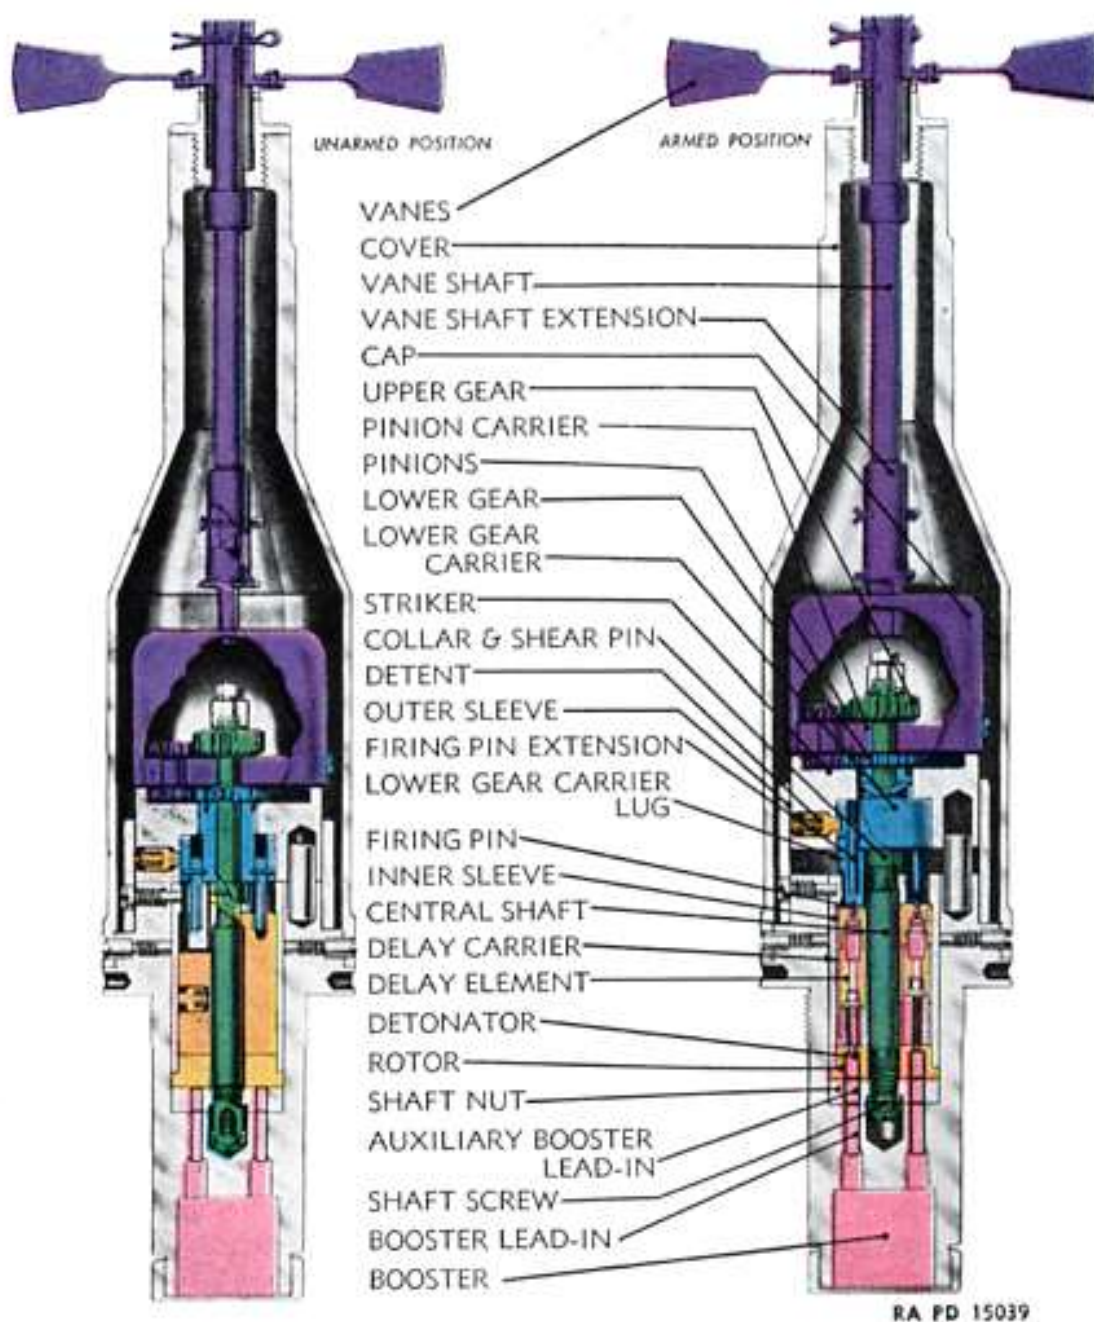

Figure 86. FUZE, bomb, AN-Mk. 228—sectioned.
c. Function. When the bomb is released "armed," the air stream rotates the arming vane. (See fig. 86.) This rotation is transmitted through a reduction gear train to a central shaft which moves the